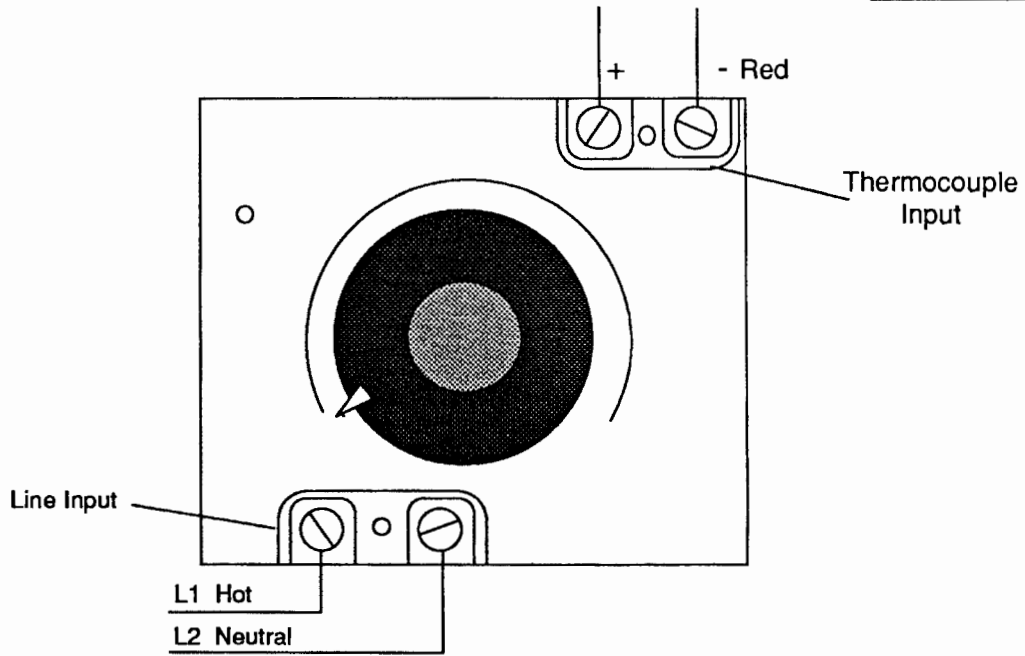

Figure 6 - Integral Setpot Wiring
3. Remove the terminal covers and wire the Relay Master per the Wiring diagram. See Page 7, Figure 6 or 7.
The sensor is miswired or the sensor lead wires are open.	Rewire per the Wiring diagram. See Page 7, Figure 6 or 7.
The remote setpot is not connected or is connected improperly.	Connect per the Wiring diagram. See Page 7, Figure 6 or 7.